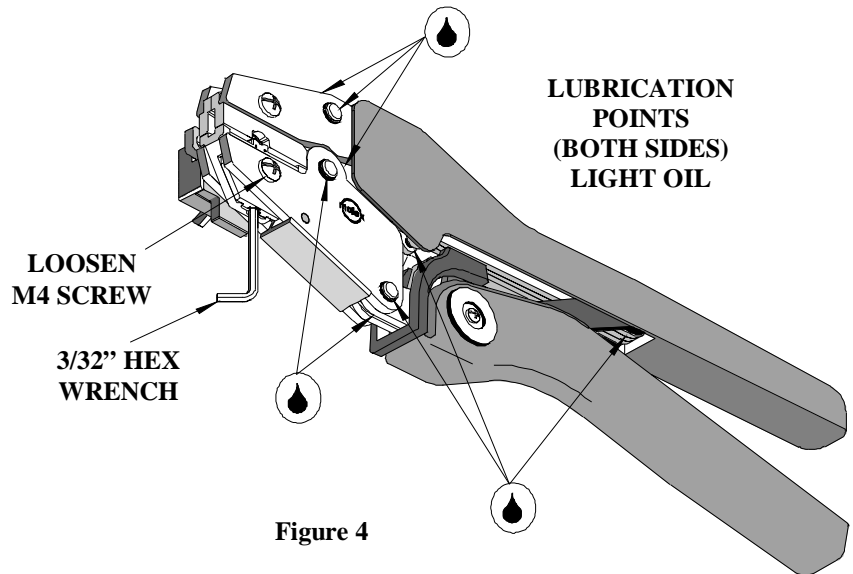

Figure 4
5. If the insulation part of the crimp needs to be adjusted, first loosen the M4 screw on the bottom tool jaw, then insert a 3/32 hex wrench (supplied) into the bottom of the lower die (See Figure 4). A clockwise (CW) rotation decreases insulation crimp while a counter-clockwise (CCW) rotation increases insulation crimp. After adjusting retighten the M4 screw.
3. Make certain all pins; pivot points and bearing surfaces are protected with a thin coat of high quality machine oil. Do not oil excessively. The 64001-1200 (RHT-2050) was engineered for durability, but like any fine piece of equipment it needs cleaning and lubrication for a maximum service life of trouble-free crimping. A light oil, such as 30 weight automotive oil used at the oil points shown in Figure 4, every 5,000 crimps or 3 months will significantly enhance the tool life and ensure a stable calibration.